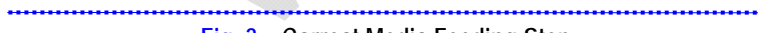

Fig. 3 – Correct Media Feeding Step
- Figure 3 shows the motor step has exact value so no need for any changes. To determine the exact motor step value setting, you need to bring the broken and solid lines closer until you can see one single line only.